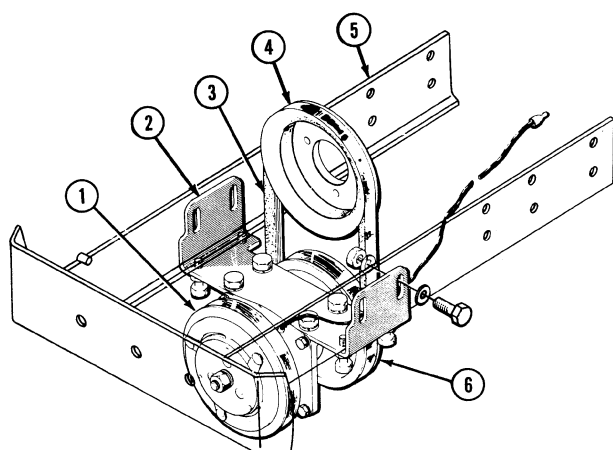
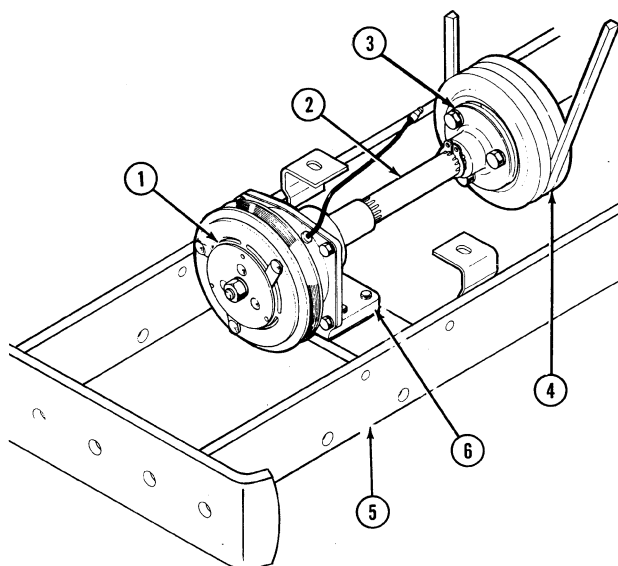

Figure 12
Figure 13
Ford 1100 Tractor (Figure 12)
Ford 1300, 1500, 1700 & 1900 Tractors (Figure 13)
2. Remove the PTO support bracket (2), Figure 12 or (6), Figure 13 and remove the assembly from the tractor.